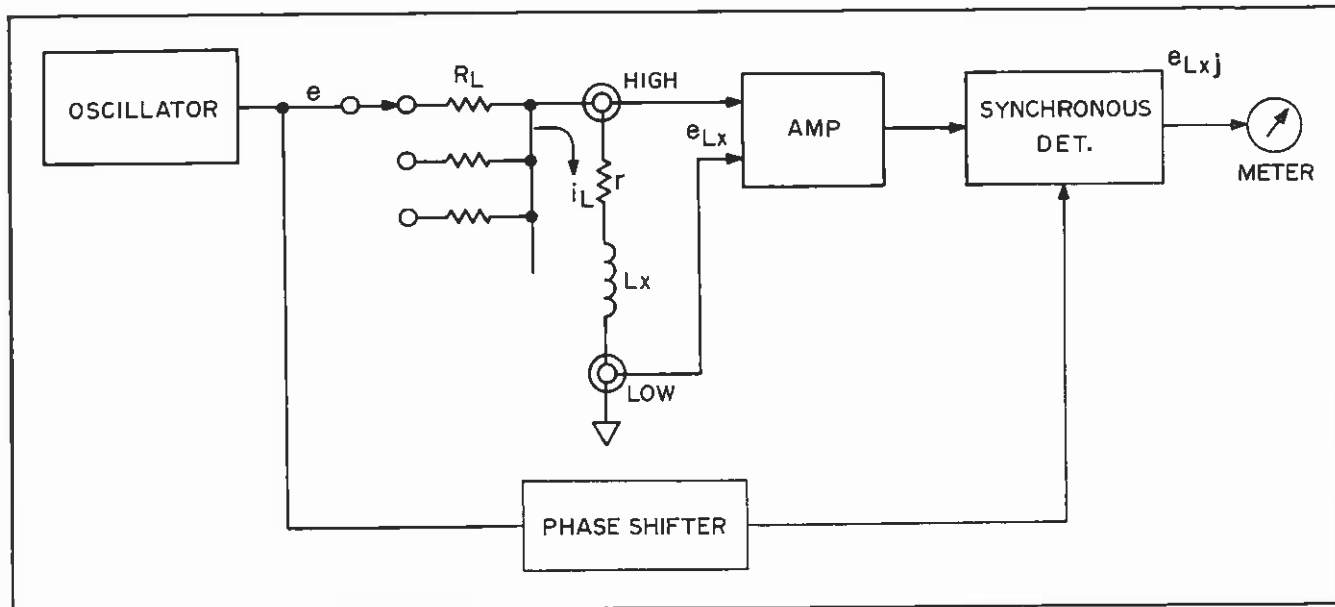

Figure 4-1. Inductance Measurement-Simplified Block Diagram
4-6. Figure 4-1 is a simplified block diagram of the circuit for measuring inductance (L). In L measurement the RANGE resistance R_L is much larger than the UNKNOWN impedance ($r + j\omega L$) connected to the UNKNOWN terminals, such that a constant current flows thru the UNKNOWN inductor. The voltage drop across the UNKNOWN inductor is amplified and supplied as one of the inputs to the SYNCHRONOUS DETECTOR. The other input to the SYNCHRONOUS DETECTOR is a square wave phase reference signal. The SYNCHRONOUS DETECTOR detects the voltage drop across UNKNOWN inductor which is in phase with the phase reference signal and provides a dc voltage output proportional to L_x . L_x can be expressed in the following equations: